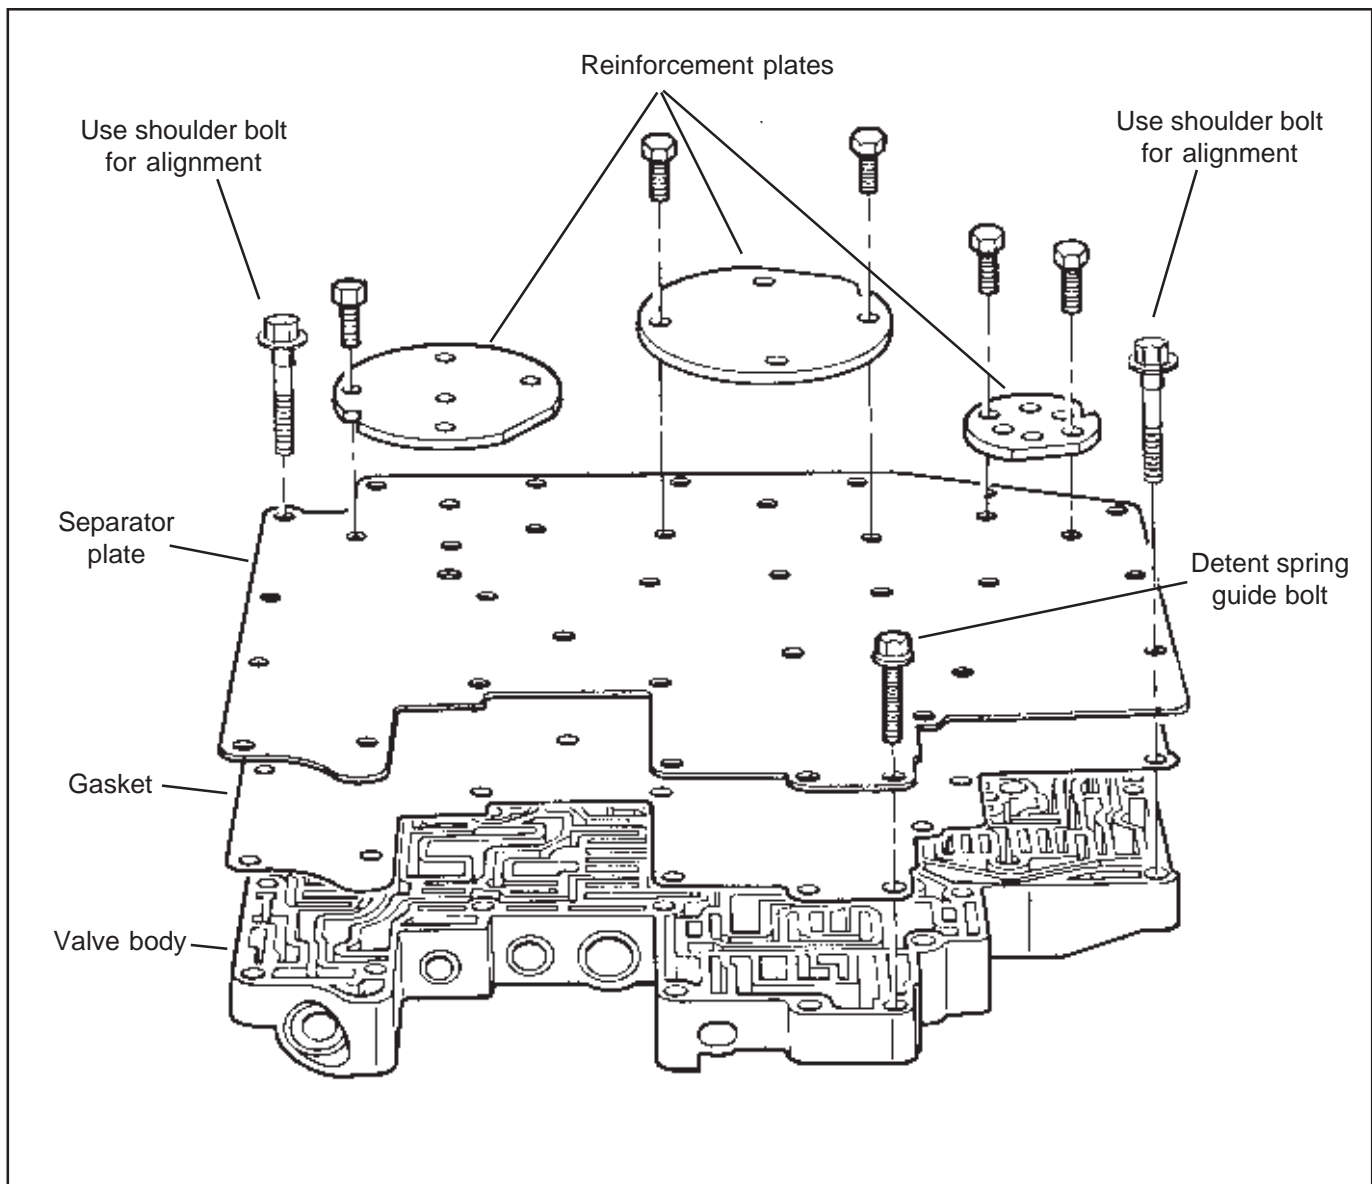
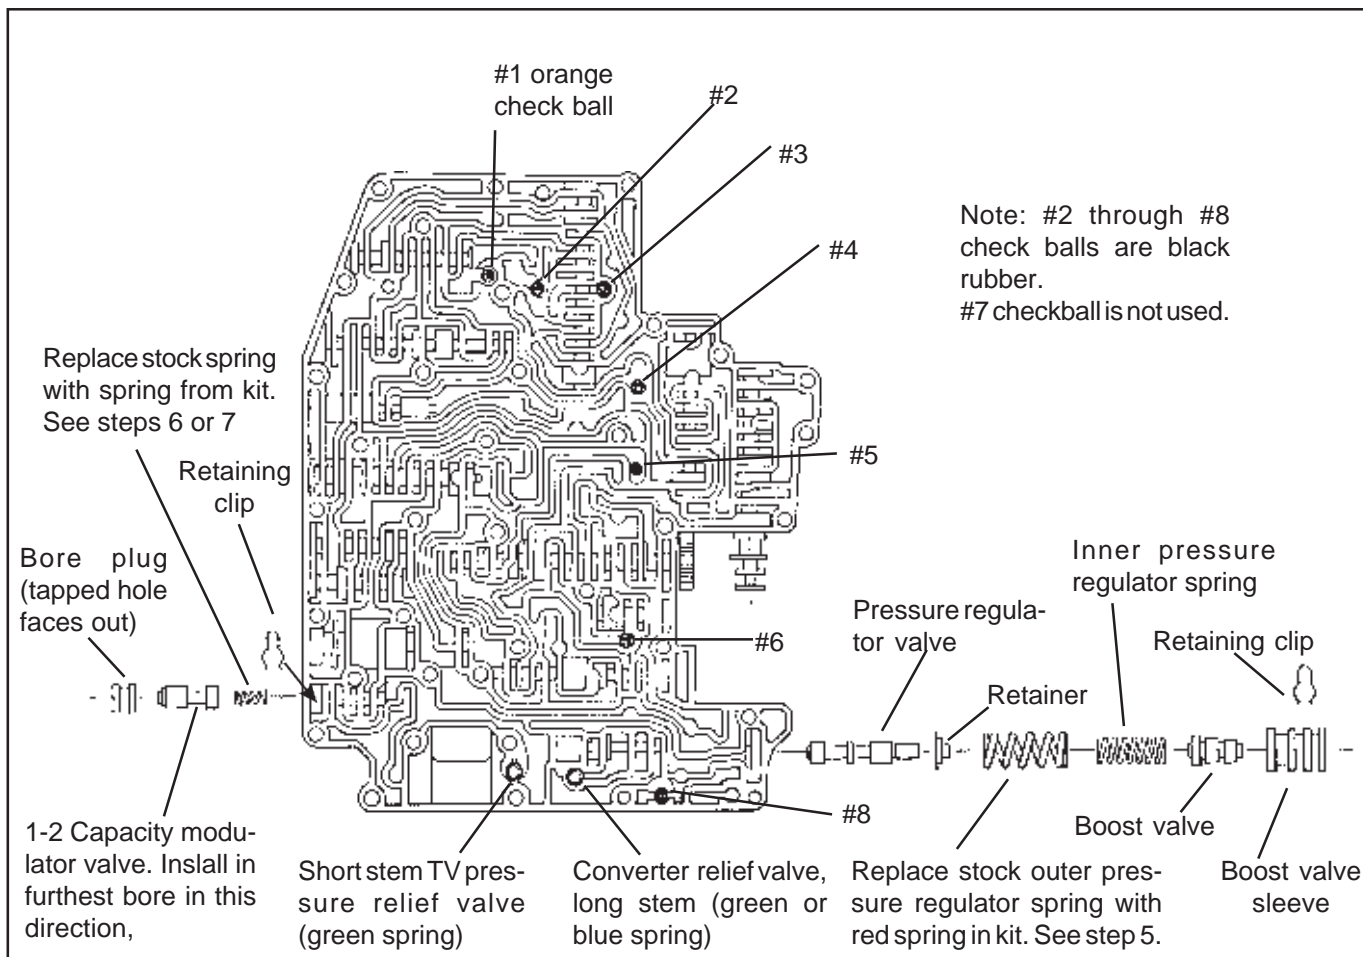

Figure 3
Figure 4
STEP 4. Remove 12 bolts holding separator plate to valve body (See Fig 3). Remove (3) reinforcement plates and separator plate, (1) large (orange) and (6) small (black) check balls, and (2) relief valves with springs (See Fig. 4). **NOTE:** Early 1980 valve bodies may have (7) black check balls. Carefully remove any remaining gasket material from reinforcement plates and valve body surfaces. Make sure none of the gasket debris remains in the valve body channels to contaminate the valves. Rinse off valve body with clean solvent to remove any dirt or grit.
STEP 5. Heavy Duty and Street; Pressure regulator. Remove the retaining clip at the end of the pressure regulator bore (See Fig. 4) Use a screwdriver to hold the pressure regulator assembly in while removing the retaining clip. If the sleeves stick in the bore, lightly punch the sleeve with a small rod and a mallet allowing it to snap back out of the bore. Remove Sleeve with Boost Valve and the outermost pressure regulator spring. Replace the stock outer pressure regulator spring with the **RED** spring supplied in the kit.
STEP 6. Heavy Duty Only; 1-2 Capacity Modulator. Remove the spring clip at the end of the 1-2 Capacity Modulator bore (See Fig. 4). Remove the bore plug, 1-2 Capacity Modulator valve and spring from bore. On later model valve bodies use the M4x40 (4mm metric screw supplied in kit) in tapped hole to assist removing bore plug. Early valve bodies do not have a hole in the bore plug so you will have to pry the plug out with a small screw driver. Replace the stock spring with the **YELLOW** spring supplied in kit. Reassemble spring, valve and bore plug (tapped hole facing out) and install spring clip.
STEP 7. Street Only; 1-2 Capacity Modulator. Remove the spring clip at the end of the 1-2 Capacity Modulator bore (See Fig. 4). Remove the bore plug, 1-2 Capacity Modulator valve and spring from bore. On later model valve bodies screw the M4x10
STEP 11. Check ball placement (See Fig. 4) Place check balls in the valve body in the positions shown. Use a
STEP 12. Reinstall original converter and TV pressure relief springs and valves (See Fig. 4). Pay close attention to the spring color and relief valve stem length. The long stem converter relief valve can have either a green or
STEP 14. Position separator plate gasket then separator plate on valve body. Align gasket and separator plate holes with those in valve body. Insert (2) long (1.56") valve body **shoulder** bolts through separator plate and valve body as illustrated in **Figure 3**. The **shoulder** bolts are required to maintain gasket and plate alignment during assembly. The shoulder bolts must be installed in the holes indicated for proper alignment. Install (3) reinforcing plates with (11) short bolts tightening the bolts finger tight. Install (1) M6x30mm (1.16") detent spring guide bolt. (**See Fig. 3**)